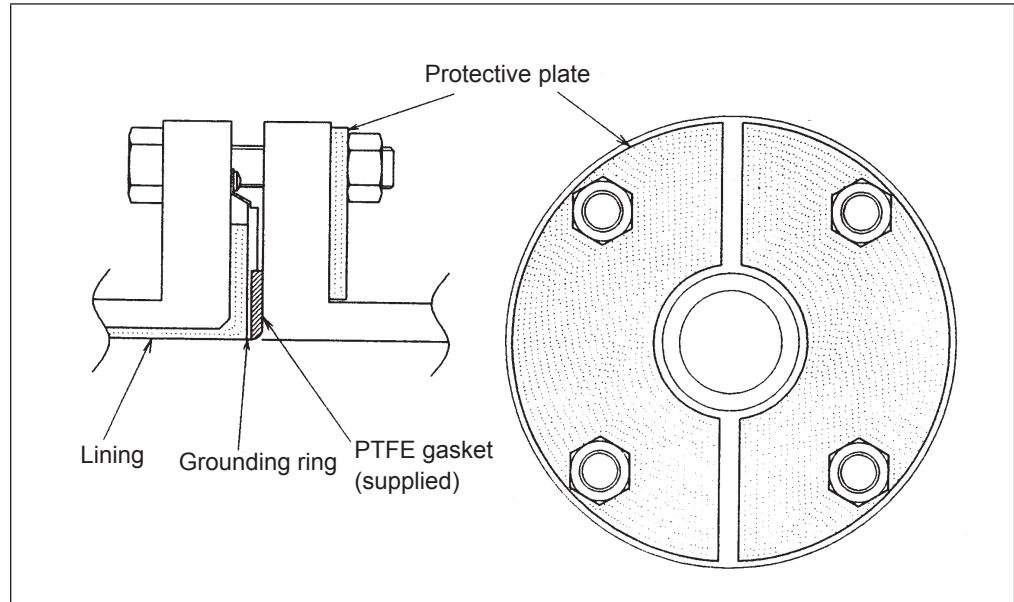

Fig. 2-30. Detector installation using Non-SUS material grounding ring (with protective plate)
- Protective plate: A protective plate is required if tightening the bolts to the specified torque may deform or damage the PVC pipe. Use stainless or hard metal 1 mm thick or more. For the shape of the metal, see Fig. 2-30.
Insert a protective plate between the outer side of the PVC flange and the detector as shown in Fig. 2-30. The protective plate protects the PVC pipe from deformation or damage when it is secured to the specified torque. For the appropriate torque, see Table. 2-5 on page 2-24.